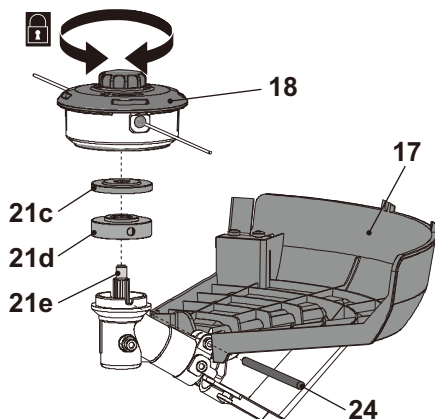

Fig. 8
- Screw the trimmer head (18) onto the spindle (21e) and tighten it counterclockwise by hand.
- Remove the spindle lock rod (24) (Fig. 8).